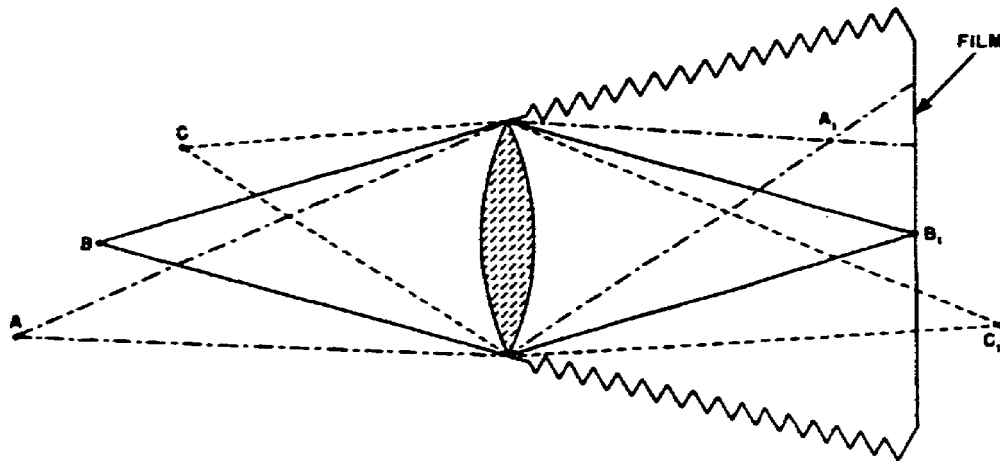

Figure 2-22. Focusing for one object.
b. Figure 2-22 illustrates this process. Light coming from far object, A, passes through the lens to form a sharp object at A_1 , and light coming from the nearer object, C, passes through the lens to form a sharp image at C_1 .